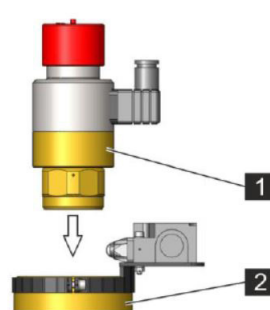

Figure 4
3. Install the release device (Figure 4/1) on the valve (Figure 4/2).